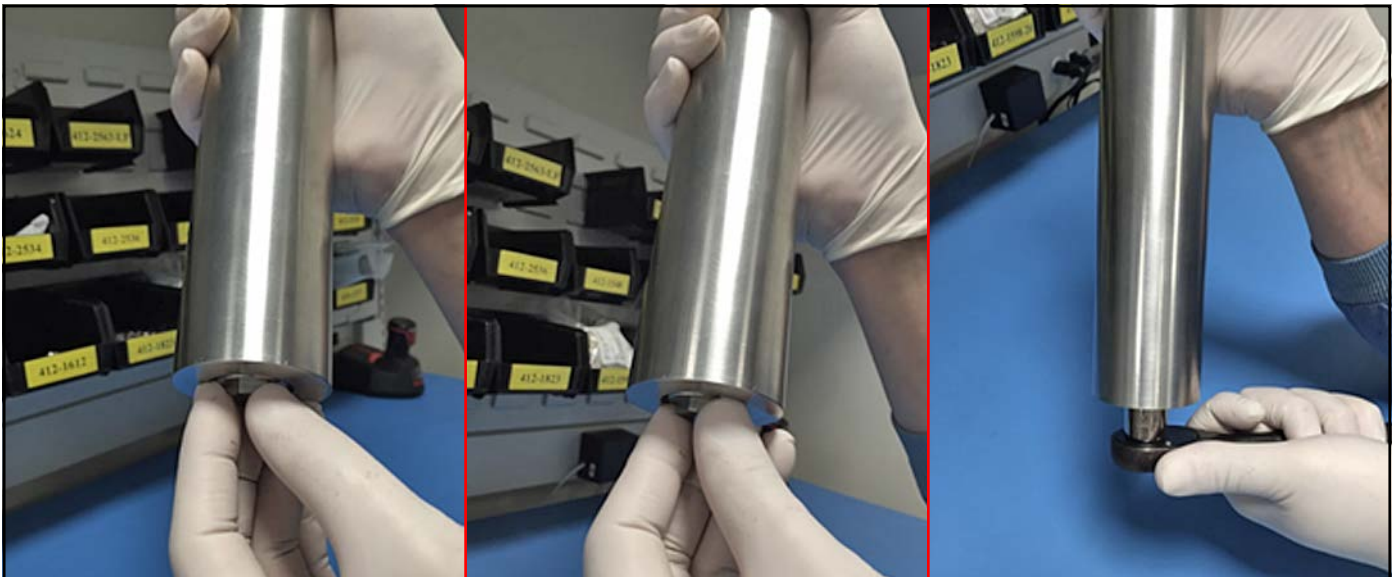

Figure 59: Replacing Mirror End Cap Assembly into the Absorption Cell
- 18.** Using tweezers, insert the mirror into the hole on top of the shim, with the gold-plated side facing up. Thread the end cap into the bottom of the absorption cell tube. Secure the threaded end cap in place with a 5/8" socket wrench (see *Figure 59* below).